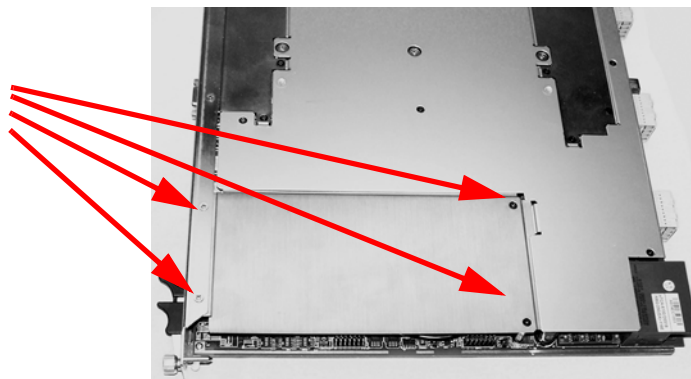

Figure 37 Removing the top-side cover to replace the SSD.
- 3 Position the controller, top side up on the workbench. With a #1 Phillips screwdriver, remove the four screws and panel indicated in Figure 37.